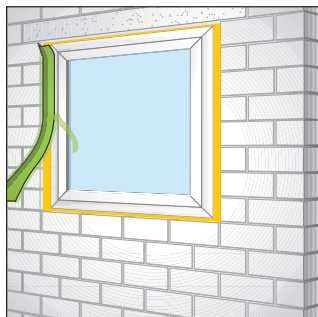

Fig 1: Bond membrane to face of frame
- The membrane should be bonded to the internal face of the frame, applying in individual strips to each side and allowing an extra 50 mm in length to allow for lap jointing at the corners (fig 1). Alternatively, it is possible to fix continuously around the frame by carefully folding the membrane at the frame corners and finally making a lap joint to close the beginning and end sections.